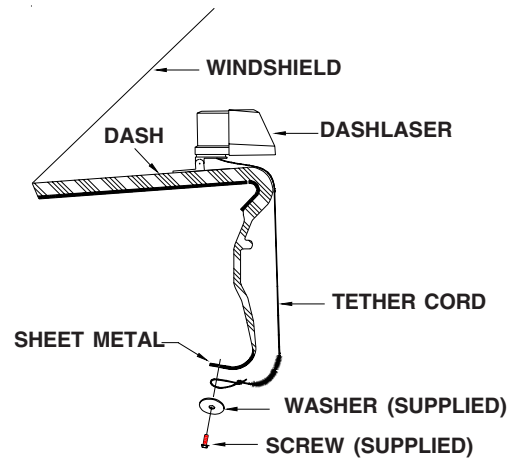

FIGURE 7
7. Once unit is attached, locate a place on or under the dash that is sheet metal for mounting the tether cord. Hold the free end of the cord in position and make sure the Dashlaser cannot reach the passenger or driver. Then attach tether cord to this section of sheet metal (not to plastic or rubber) as shown in figure 7.